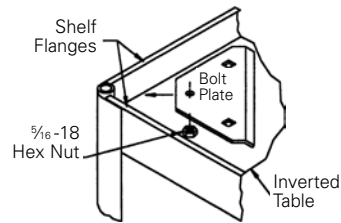

Figure 2
2. Place a bolt plate in a corner of the table, making sure it locates beneath the shelf flanges. Hold a ⅝ -18 hex nut beneath the round hole in the bolt plate. (Figure 2)